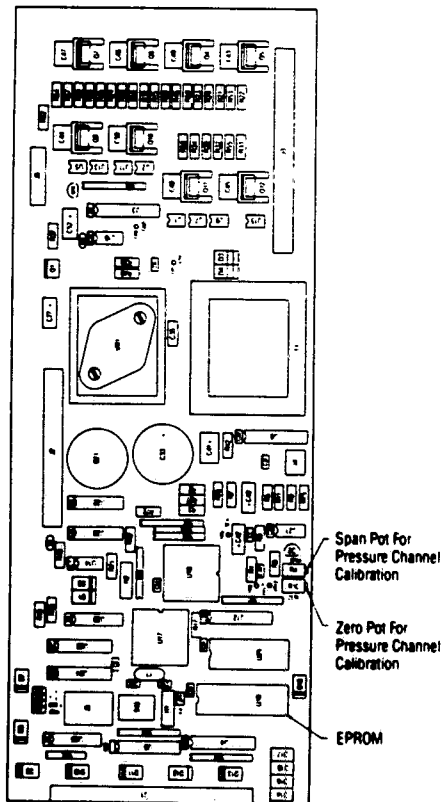

FIGURE 7-5 – Control PC Board
3. Lower Control to the horizontal service position to gain access to temperature pots R4 (SPAN) and R10 (ZERO) (Figure 7-5).